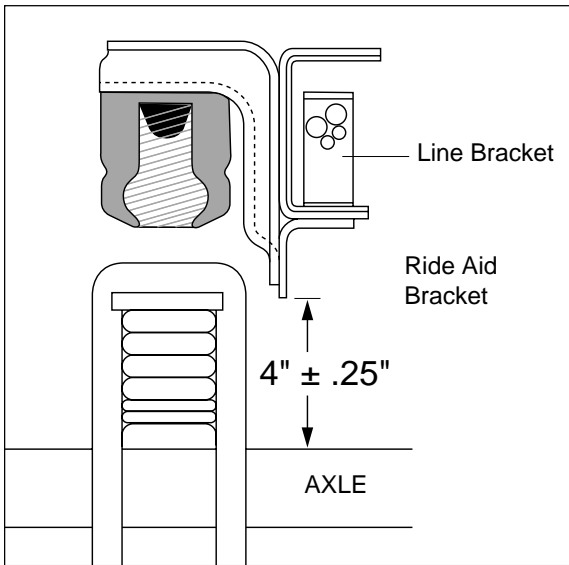

Figure 2
1. Jack up rear of vehicle or raise on hoist. Place safety jack stands under axle and adjust so that the axle to ride aid bracket distance is $4" \pm .25"$. See Figure 2. This distance will place the vehicle at normal ride height.